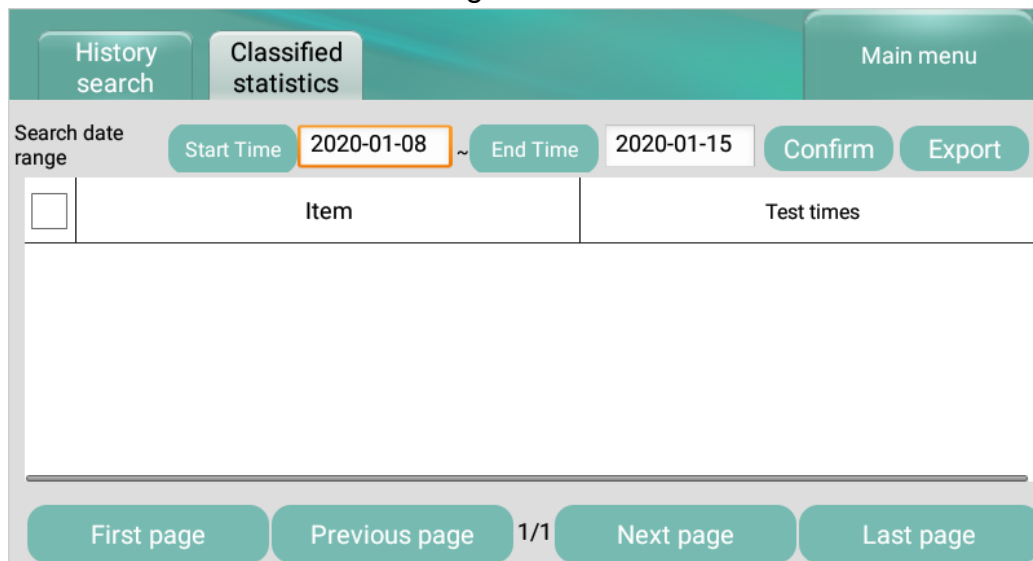

Figure 4.4.4
10. Select [Classified Statistics] in Figure 4.4.4. After selecting a date range, press confirm to view the statistics of how many tests have run within the selected time frame.